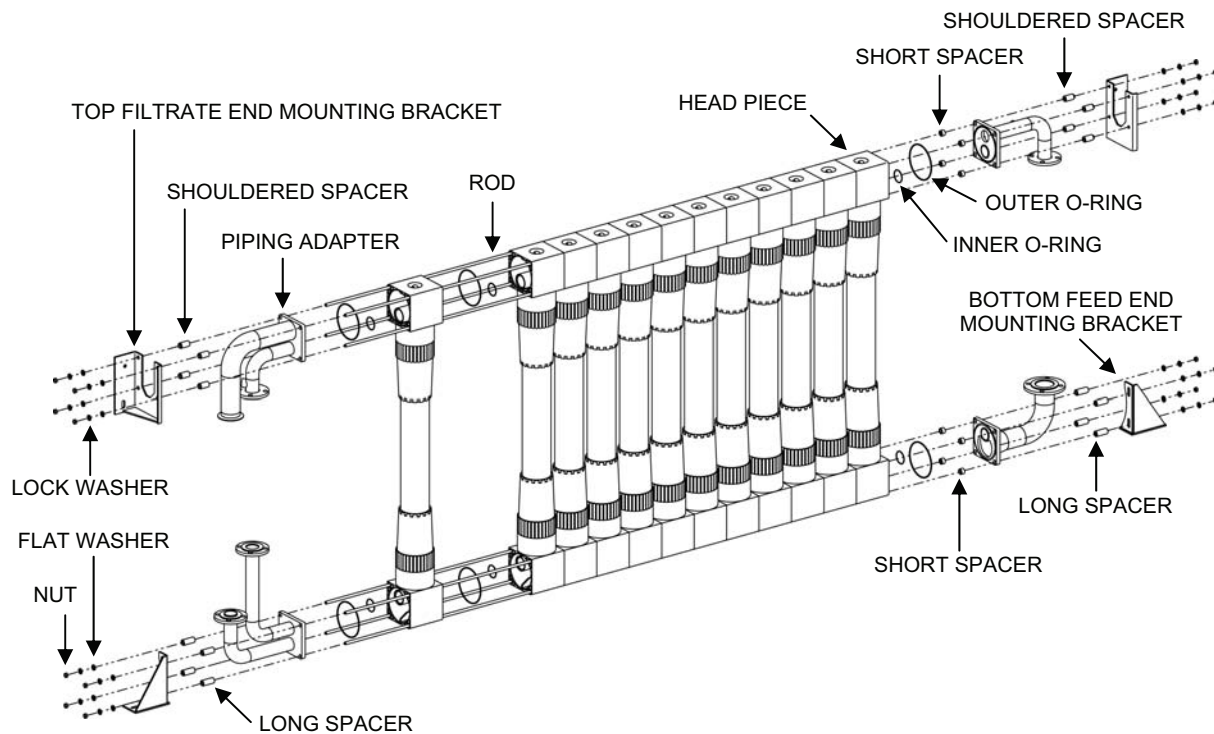

Figure 7. MF Assembly Module Repair.
1. Disassemble and repair the individual filter modules as follows (see Figure 7):
1. Assemble the MF assembly as follows (see Figure 7):